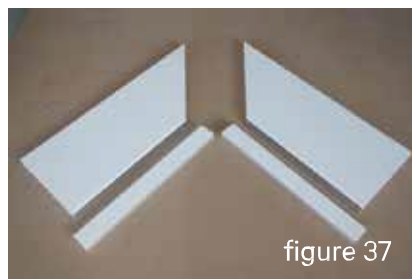

figure 37
1. Cut 45° internal corner components on a CNC Router using a sharp straight tool, for the butt joint and 45° cutting tool, for dropdown mitres (see figure 37). Ensure to cut components over-size in length (this will be cut to size on Panel Saw later in the process).